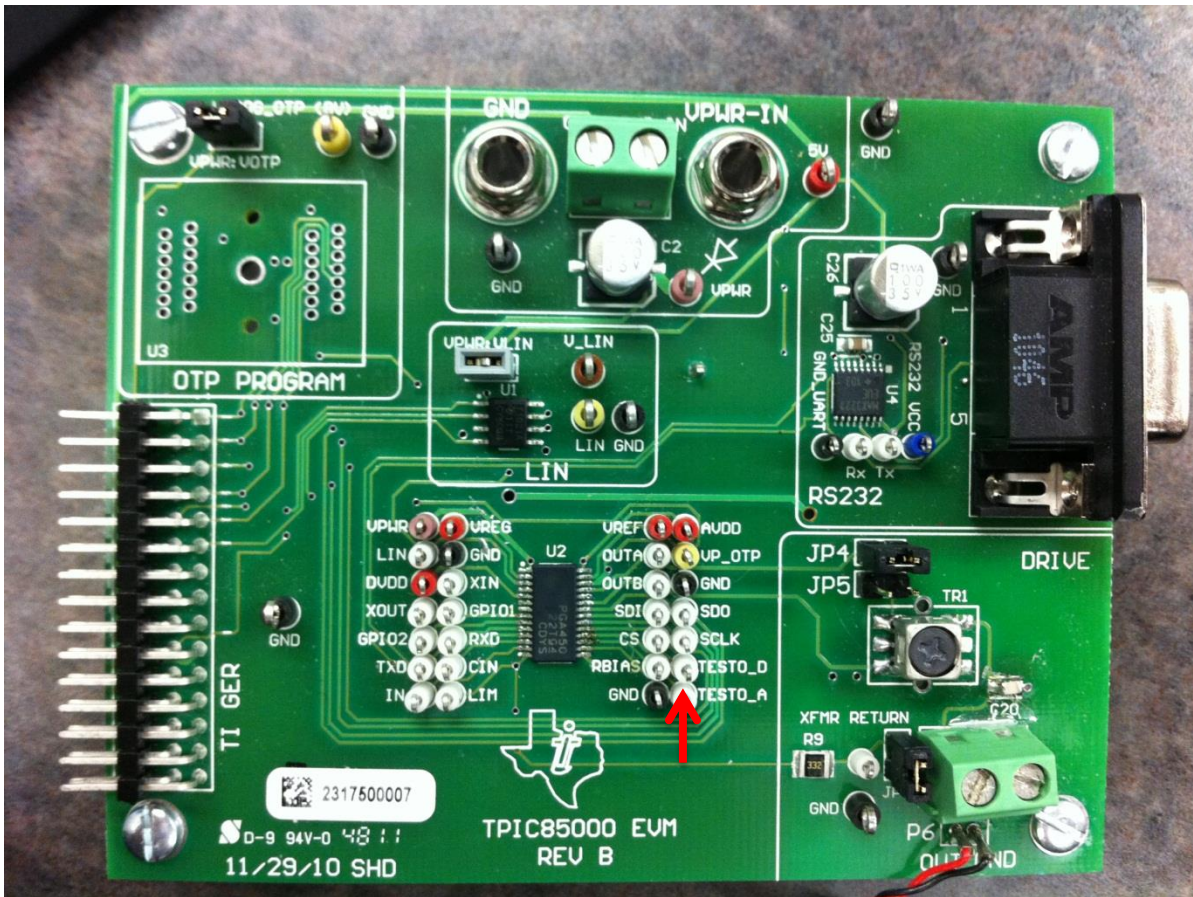

**Figure 1: How to connect TIGER to PGA450EVM**
2. Apply +12 volts to VPWR-IN and GND banana plugs as shown in Figure 1 (red and black cables)